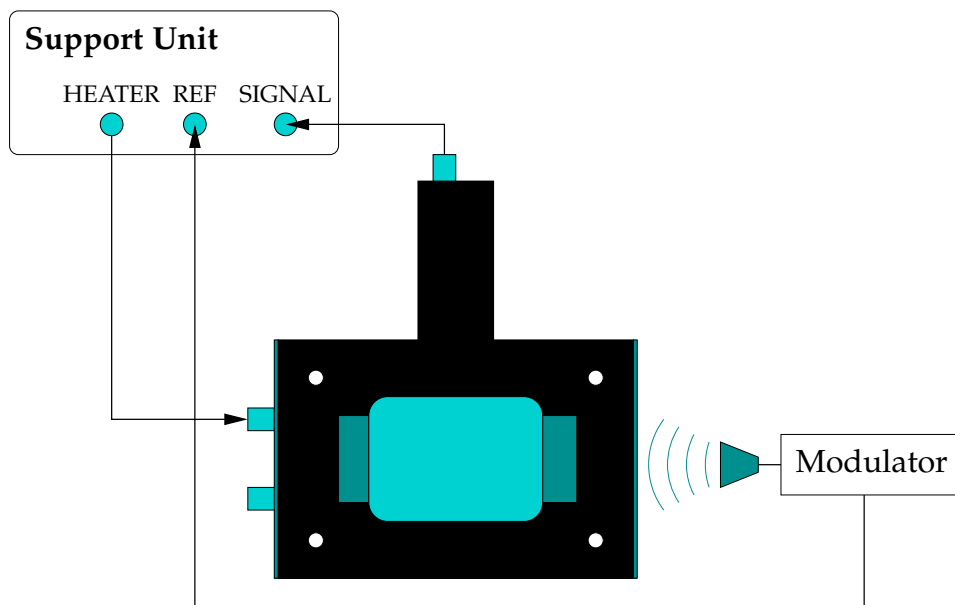

Figure 2.3: Schematic of the apparatus: connecting the TK power meter head, the support unit and the source of frequency modulation.
- Using one of the BNC cables supplied, connect the pressure transducer BNC output on the top of the power meter head to the BNC connector labelled SIGNAL, as shown in Figure 2.3. The second cable should run from one of the two film heating connections on the side of the power meter to the BNC cable labelled HEATER.